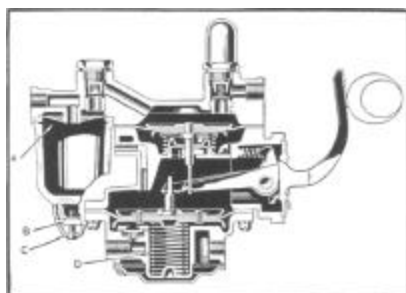

Figure 42
The combination fuel and vacuum pump, Figure 42, which is available as optional equipment or an accessory, incorporates a vacuum pump (D) to provide greater vacuum to improve operation of the windshield wipers on acceleration, and particularly in negotiating upgrades when engine vacuum is generally low.